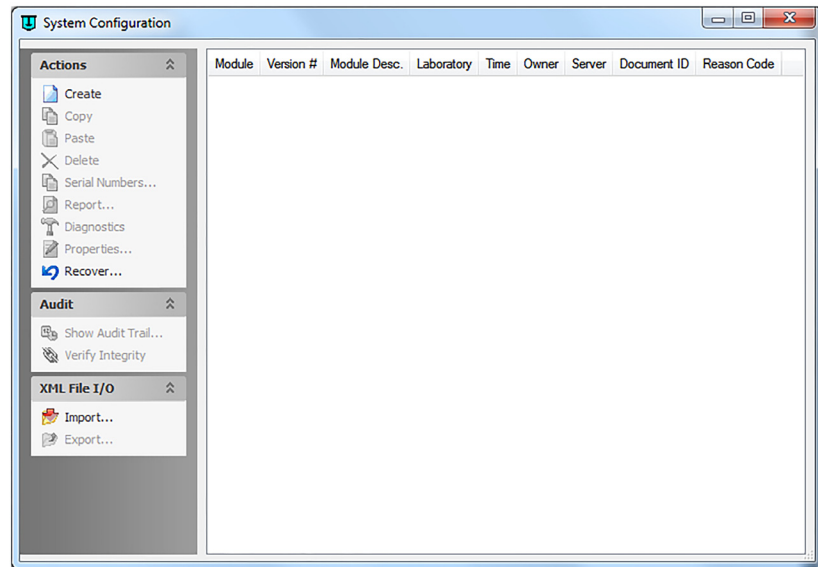

Figure 8. System Configuration Screen
- 1 From the navigation bar, click **Configuration**. The System Configuration screen displays (see **Figure 8**, “System Configuration Screen,” on page 41).